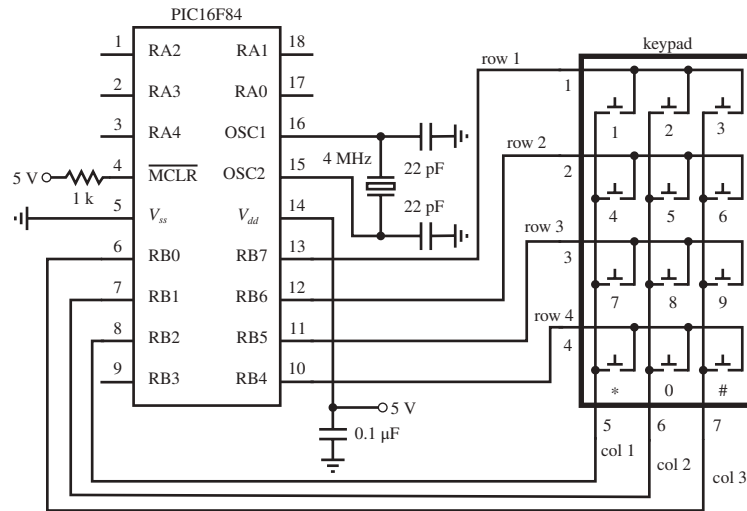

Figure 7.12 Numeric keypad schematic and PIC interface.
Figure 7.10 illustrates a common four-row, three-column 12-button **keypad**. Figure 7.11 shows a photograph of two common keypads. One has 12 keys with a ribbon cable interface, and the other has 16 keys with solder holes to which individual wires can be attached. Each key in a keypad is attached to a normally open (NO) pushbutton switch. When a key is pressed, the switch closes. Figure 7.12 illustrates the electrical schematic of the keypad with a recommended interface to the PIC16F84. A standard keypad has a seven-pin header for connection to a ribbon cable socket. There is one pin for each row and one pin for each column as numbered in Figure 7.12.